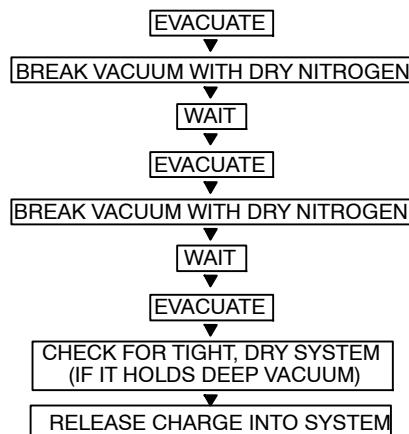

Fig. 19 – Triple Evacuation Method
The triple evacuation method should only be used when vacuum pump is only capable of pumping down to 28 in. of mercury vacuum and system does not contain any liquid water. Refer to Fig. 19 and proceed as follows:
5. Repeat this procedure as indicated in Fig. 19. System will then be free of any contaminants and water vapor.